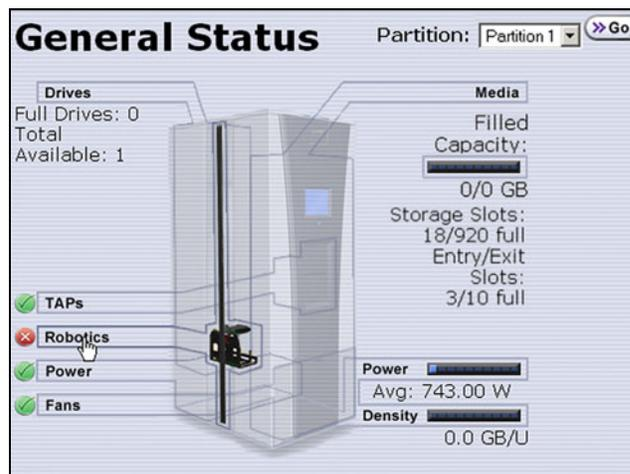

Figure 3 The General Status screen.
3. Click **Robotics** to display the Robotics Status screen and select the **Robots** tab (see Figure 3 on page 8).
2. From the toolbar menu, select **General**  **General Status** to display the library's General Status screen (see Figure 3 on page 8).